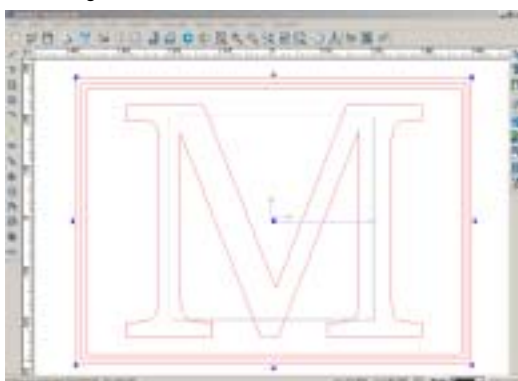

Fig. 12-17
9. Select the inner rectangle and repeat step 8 (set the offset direction at 2, and choose inner direction). The result is shown in Fig. 12-17.